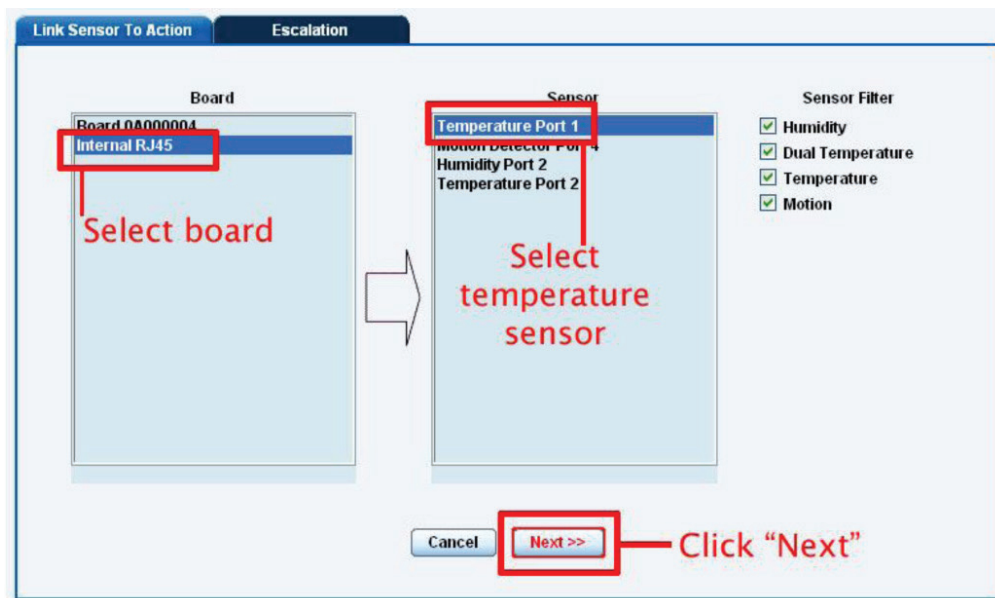

Figure 4-8. Select the sensor.
5. Select the sensor and SNMP trap parameters (see Figures 4-8 and 4-9). First, click on the board that the sensor is attached to and then select the sensor and click "Next."